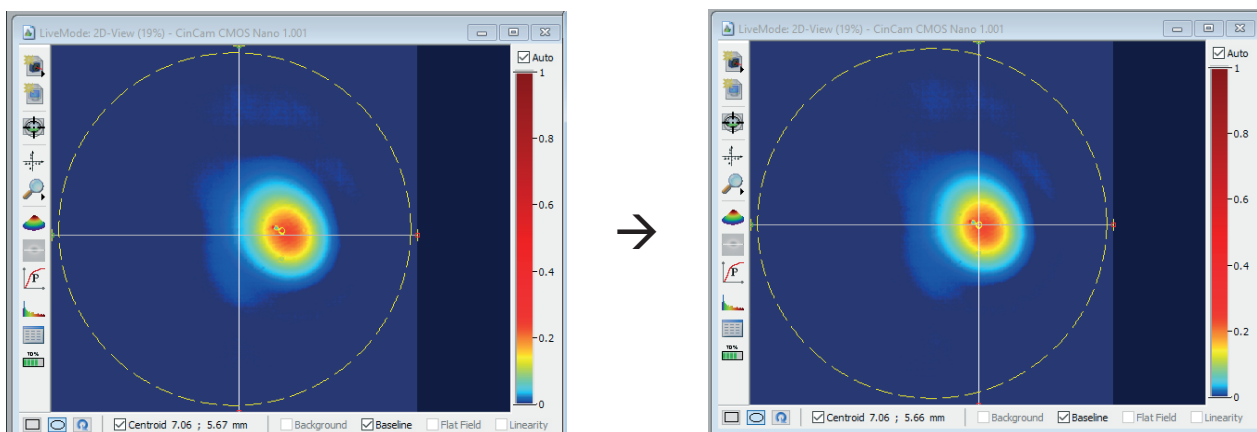

Figure 17. Setting laser beam position.
9. Set current beam position as a reference point by placing crosshair over the center (fig. 17):